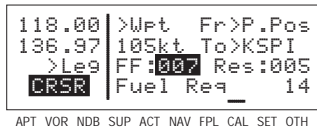

Figure 4-62
8. Move the cursor to the fuel flow rate field and use the right inner knob to select the desired value (figure 4-62). Remember that this can be in any units you desire (as long as it's per hour), but the same fuel units must carry through the calculations.